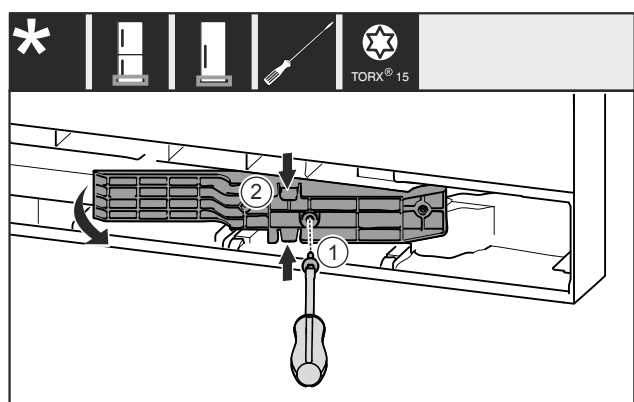

Fig. 19 *
- Remove the screw Fig. 19 (1)*
- Gently press the top and bottom of the adapter piece Fig. 19 (2) together and pull it out.*